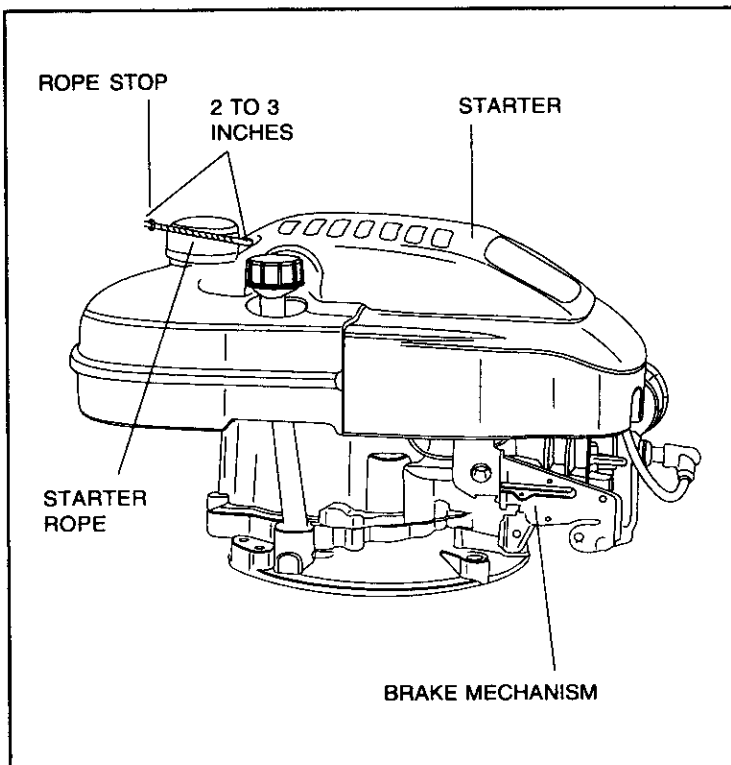

Figure 2
② INSTALL ENGINE BRAKE CABLE AND STARTER ROPE: BRAKE CABLE (see Figure 2): Attach engine brake cable to brake mechanism as shown.
4. a) **RECOIL STARTERS:** Grasp starter handle (figure 2) and pull rope out slowly until you feel drag. Let rope rewind slowly. Pull rope with rapid, full arm stroke. Return rope slowly to original position.